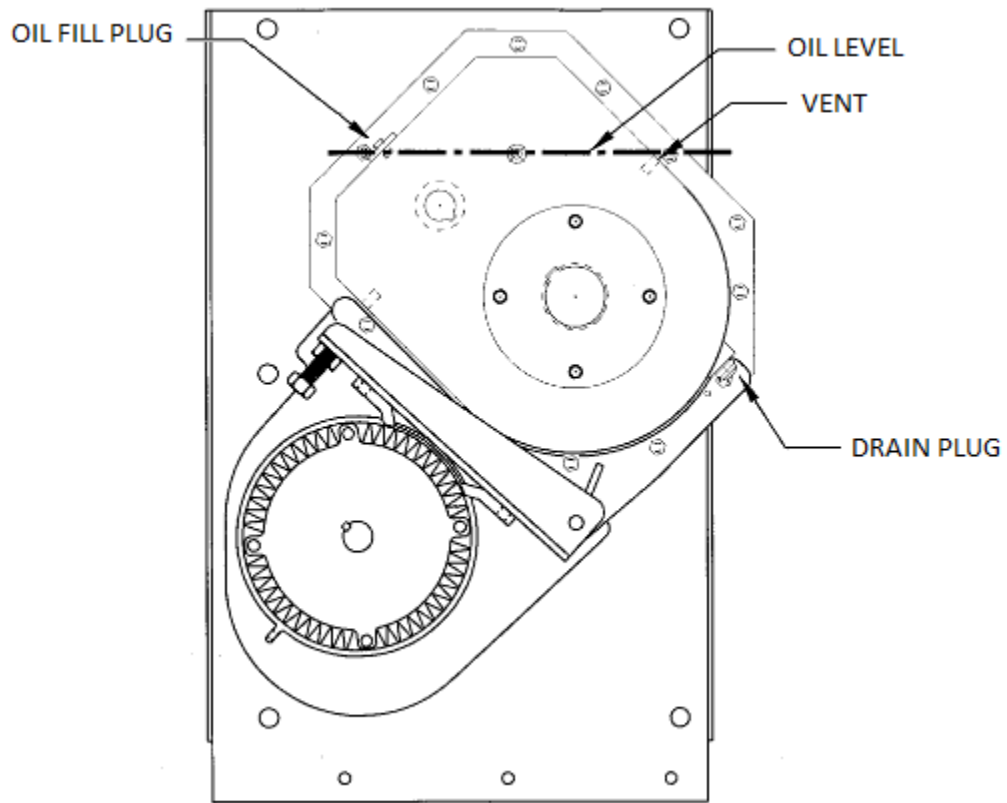

Figure 3
- Check reducer oil level by loosening the top jam nut and adjusting nut on torque rod enough to pivot the reducer to the horizontal position (see fig. 3, page 21). Remove level plug. Oil will run out if filled to
- Drain oil from reducer by removing plug "D" (see fig. 3, page 21).